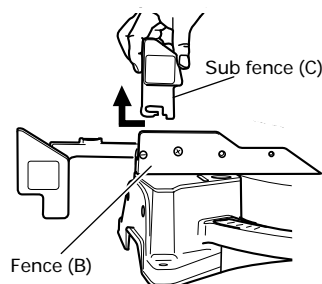
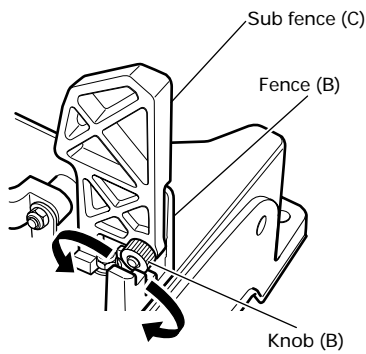

Fig. 13
Fig. 14
In the case of left bevel angle cutting, remove the sub fence (C) by sliding to the side and removing from the top as shown in Fig. 13. Loosen knob (B) then remove the sub fence (C) (Fig. 14)
**⚠ WARNING:** To attach the sub fence (C), insert then securely tighten knob (B).